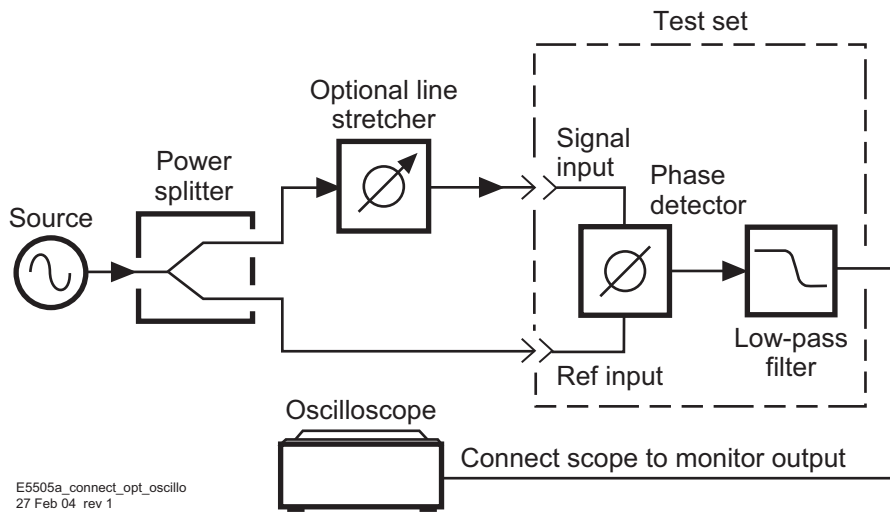

Figure 153 Connection to optional oscilloscope for determining voltage peaks
- 1 Connect circuit as per Figure 153 on page 222, and tighten all connections.